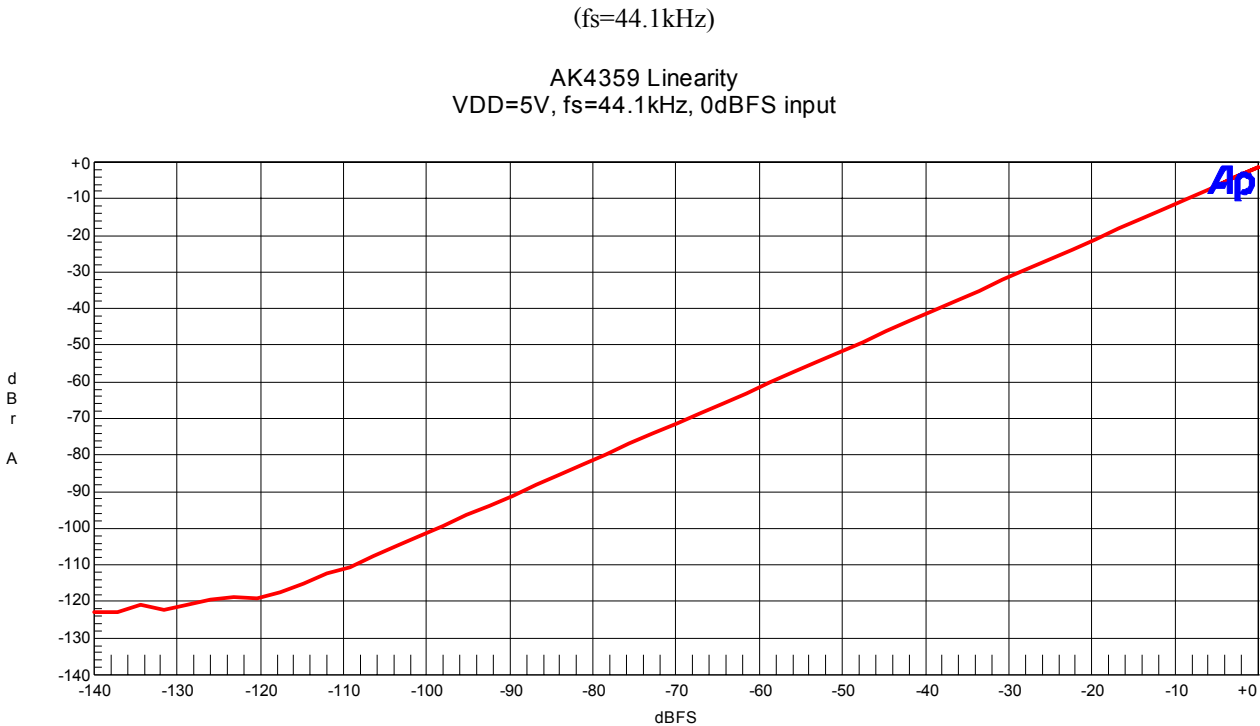

Figure 10. Linearity (fin=1kHz)
- Figure 10. Linearity (fin=1kHz)